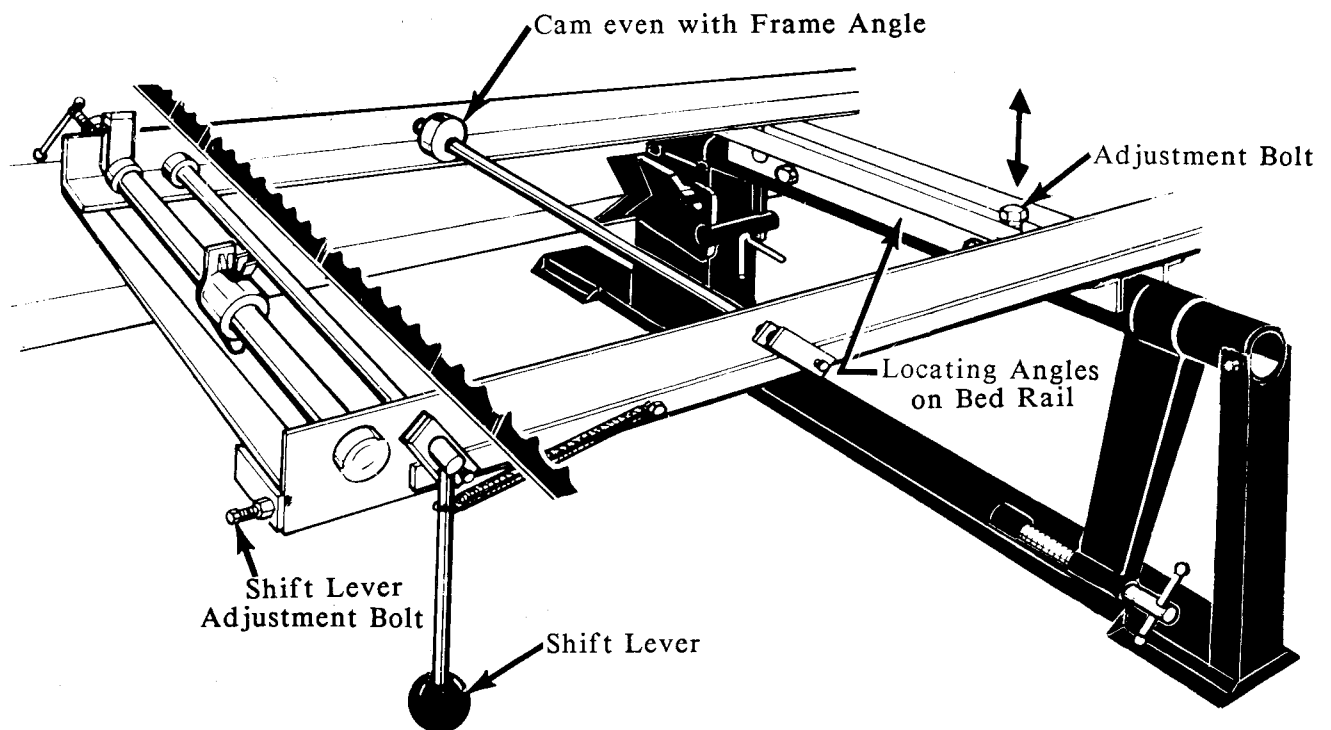

FIGURE 1
2. When using the option to cut shingles, or as a resaw brace, you will need to align the frame parallel to blade. To do this, move the blade carriage over the front bed rail and lower until the blade touches the frame. Use the adjusting bolt, if necessary, to level the frame to the blade (See Figure 1). Repeat over rear bed rail.
1. Loosen the set screws of all six cam lobes with an allen wrench. Move each lobe toward the track side of the frame until the inside edge of each lobe is in line with the inside edge of the frame angle (See Figure 1).